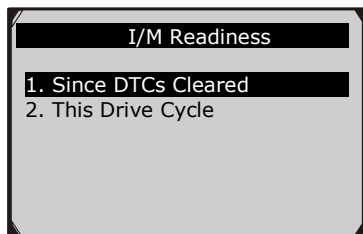

Figure 6.21
- 3) If the vehicle supports both types of tests, then both types will be shown on the screen for selection (Figure 6.21).